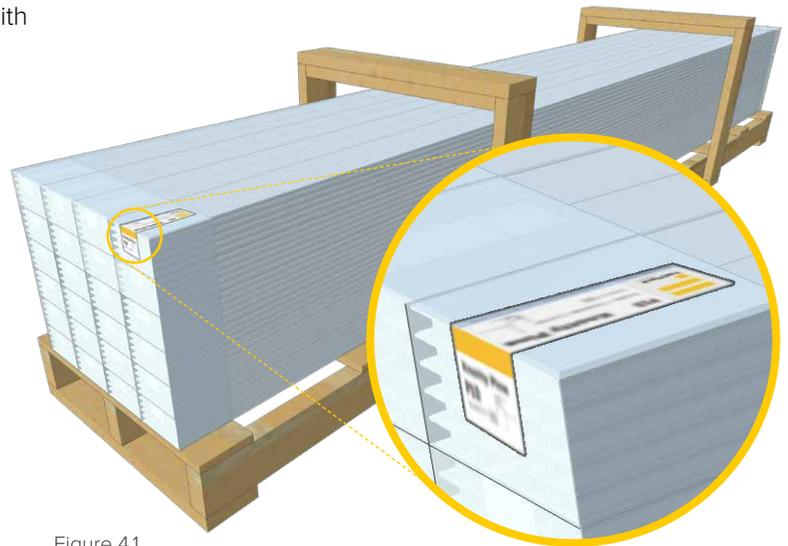

Figure 4.1
- ✔ Material will be received on an pallet (Figure 4.1). Pallet size will vary (typical pallet size is 12'-16' L x 33" W x 24"-32" T). All products will be labeled separately. Inspect all material for damage, defect, correct color, correct color consistency, and correct trim specification.